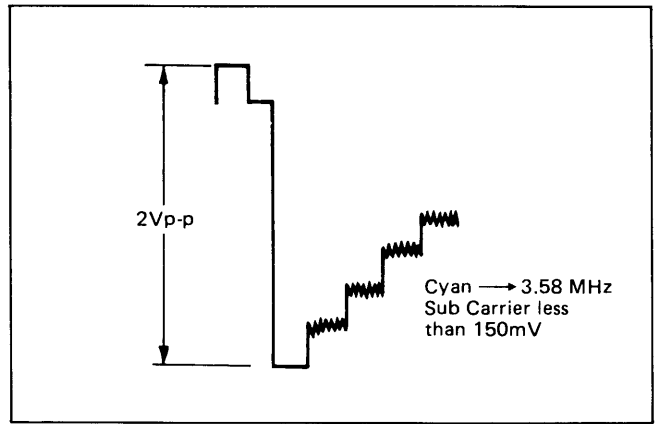

Fig. 32
- 4) Adjust L4003 to set 3.58 MHz sub carrier to the minimum amplitude as shown in Fig. 32.
- 5) Repeat steps (3) and (4) several times.